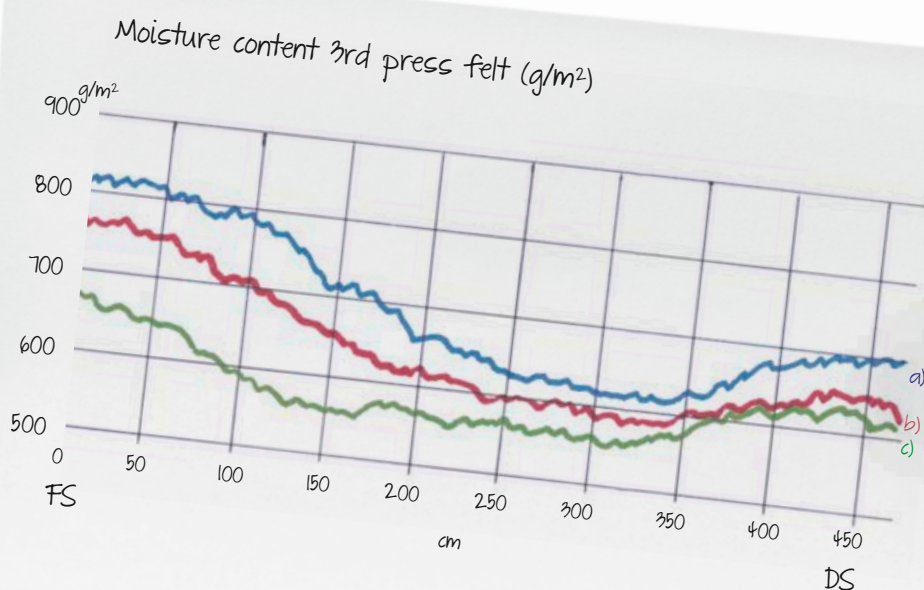

Fig. 1: CD Moisture profile from three different press felts.
interesting occurrences: While both 1st and 2nd press felts operated without problems, in the 3rd press **the CD moisture profile was uneven again and again** (see figure 1). On a machine with a width of 4.5 metres the areas around the edges (front side (FS) and drive side (DS)) clearly showed more moisture than in the centre. This was despite the fact that the press section had been aligned by specialists prior to our visit at the request of our customer. We could therefore establish right from the start: **The two press rolls are aligned perfectly in parallel** so that "crossed alignment" could be excluded as a source of the fault.
Figure 1 shows the moisture profiles of three press felts from different clothing suppliers (water content in g/m² felt). Besides our Atromaxx.CONNECT felt a competitor's products had at other points in time been installed in the same position. The result was the same, however: differences in moisture content in the cross direction. We therefore concluded that the **cause of the problem must be in the configuration of the press** – even though, as already mentioned, parallel alignment had been checked. At this point the nip profiles had to be investigated further. So we set to work with our measuring equipment. Here, as always, the principle **"safety first!"** is paramount. After all, there is **a drop of four to five metres under the seam felt**, and you can never be sure that it is strong enough to support a fall.